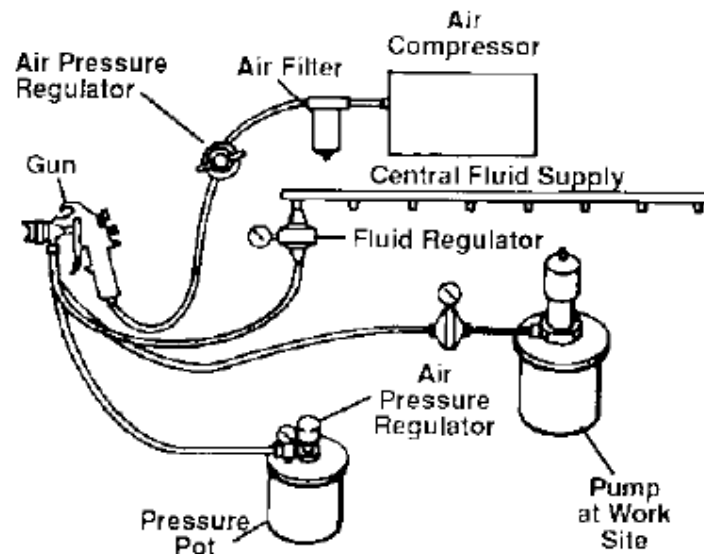

Figure 2 Pressure Feed System
1. Pressure Feed System (see Figure 2)
2. Fluid flow is controlled either by a fluid regulator, or the regulator on the pressure pot (see Figure 2).